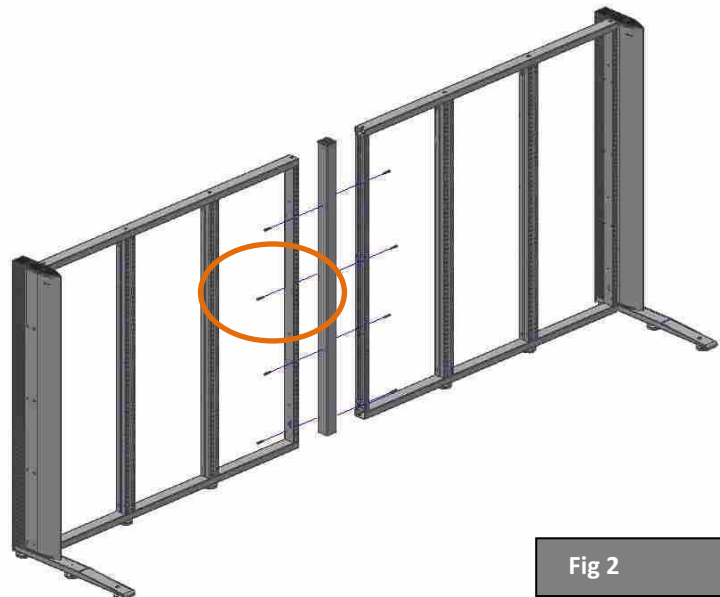

Fig 2
STEP 1 – First mount a line structure (Fig. 2)